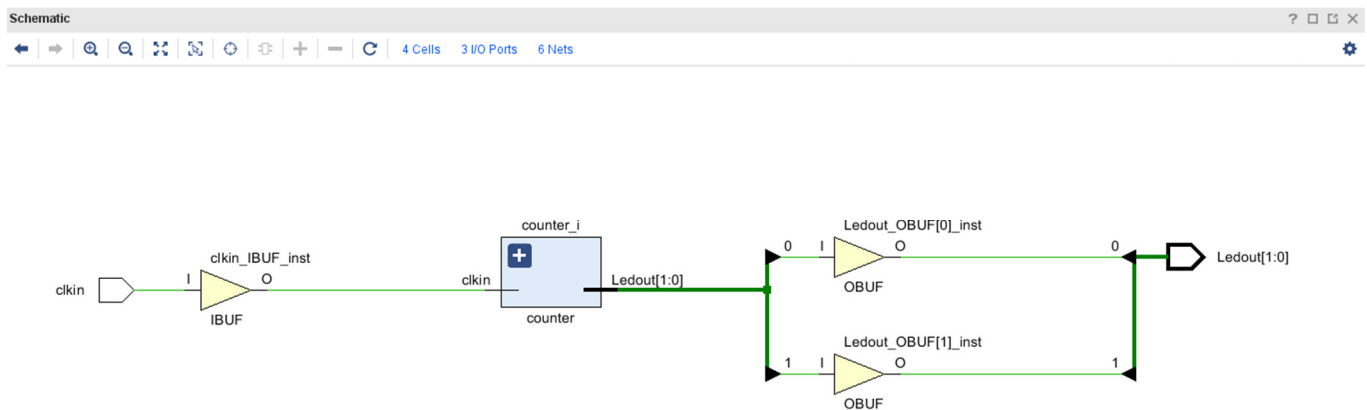

**Figure 11: Hierarchical design**
16. In the **Sources** pane, expand the hierarchy. Notice the **counter\_wrapper** file instantiates **counter.bd** which in turn instantiates **counter.v**, which in turn instantiates the Binary Counter symbol as shown in Figure 11 below.